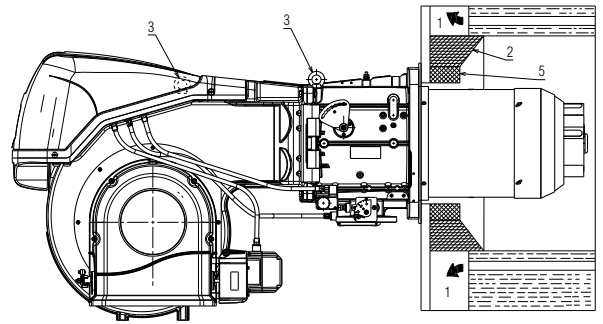

Fig. 16
For boilers with front flue passes 1)(Fig. 16 on page 21) or flame inversion chamber, a protection in refractory material 5) must be inserted between the boiler fettling 2) and the flame funnel 4).
Prepare a suitable lifting system using rings 3)(Fig. 16).
- Fit the heat insulation supplied onto the blast tube 4)(Fig. 16).